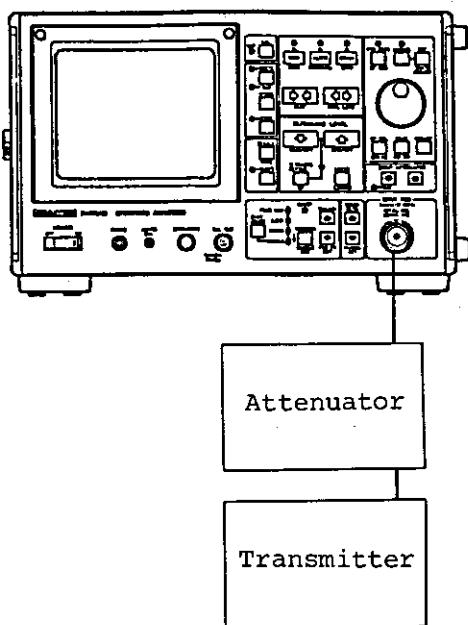

Figure 5-2 Set-up in Measurement of Modulation Wave
- ① Connect the AM transmitter output to the INPUT connector of this equipment by making it pass through the external attenuator when necessary (Figure 5-2).
- ① Connect the AM transmitter output to the INPUT connector of this equipment by making it pass through the external attenuator when necessary as shown in Figure 5-2.
- ② Set the center frequency to the frequency of the carrier.
- ③ Set the frequency span to less than 10 times the modulation frequency.